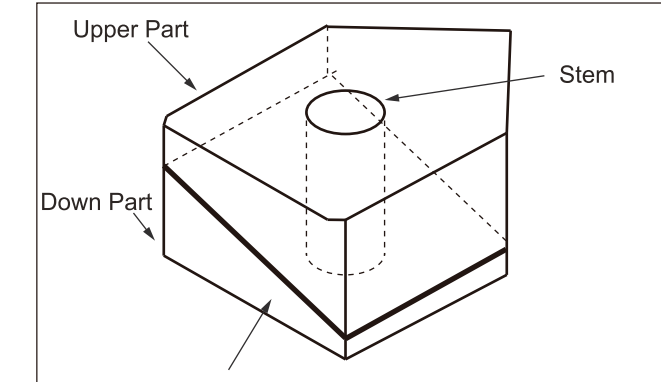

Figure 3 Fairing Cutting Diagram
- Measure the rake angle of the hull, cut the fairing according to the angle (see figure 3).